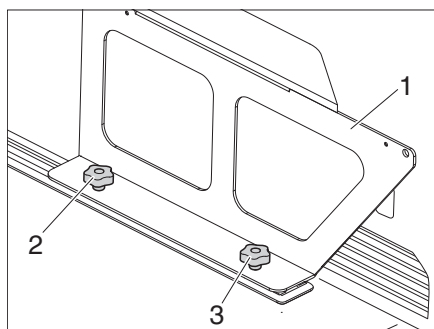

Fig. 26 Support of the bed extension
- Screw off the two star screws (Fig. 26,2) and remove the support (Fig. 26,1) of the bed extension.
- Place on the support (Fig. 26,1) of the bed extension.
- First screw in the rear star screw (Fig. 26,3).
- Screw in the front star screw (Fig. 26,2).